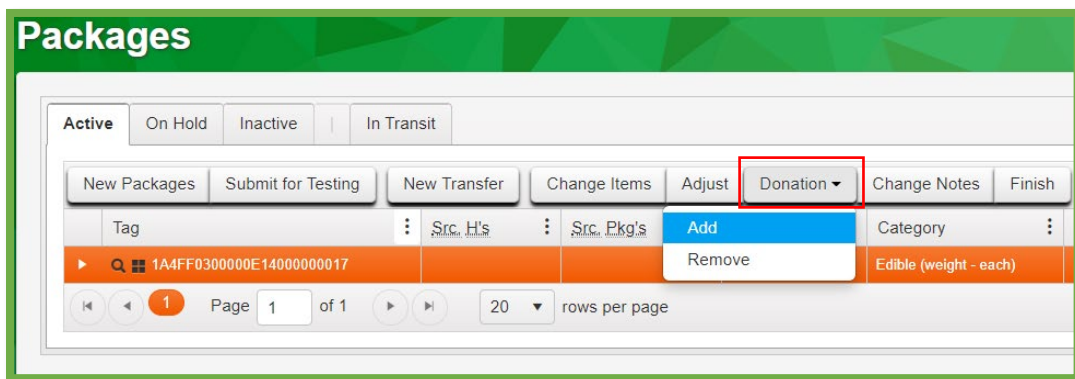

Figure 1: Marking an Existing Package for Donation
2. Select the *Donation* button, and then select *Add* as shown in **Figure 1**.